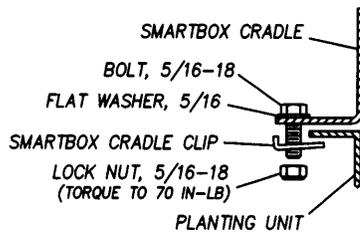

Figure 3a
6. If cotter pins do not hold cradle securely in place, use SmartBox® cradle clips as a spacer between the frame and pins; or secure the cradle to the frame using the SmartBox® cradle clips and fasteners as shown in Figure 3a.